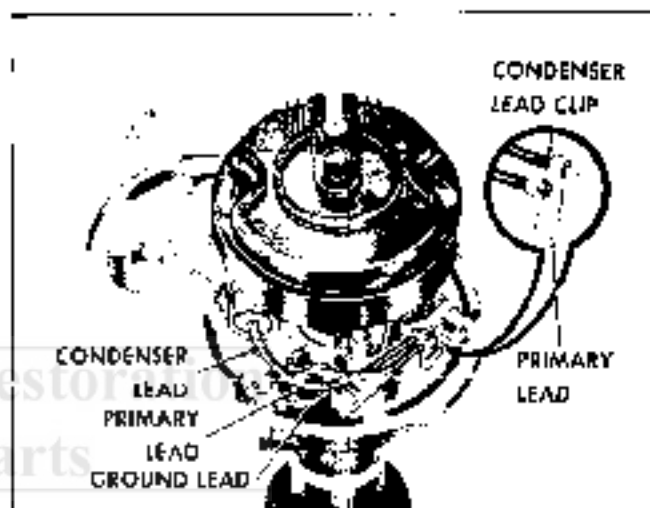

Fig. 6E-25 Arrangement of Leads
2. Remove condenser lead and primary lead from nylon insulated connection (Fig. 6E-25) in contact set.
CUTION: Make sure condenser lead and primary lead are located as in Fig. 6E-25. Leads must be properly located to eliminate interference between leads and cap, weight base or breaker plate.
1. Remove rotor by removing two attaching screws, lockwashers, and flatwashers (Fig. 6E-26).